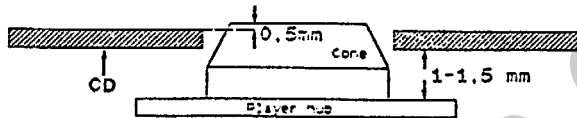

Fig.13
- Clearance between CD and player hub should be approximately 1 mm (Fig. 13).